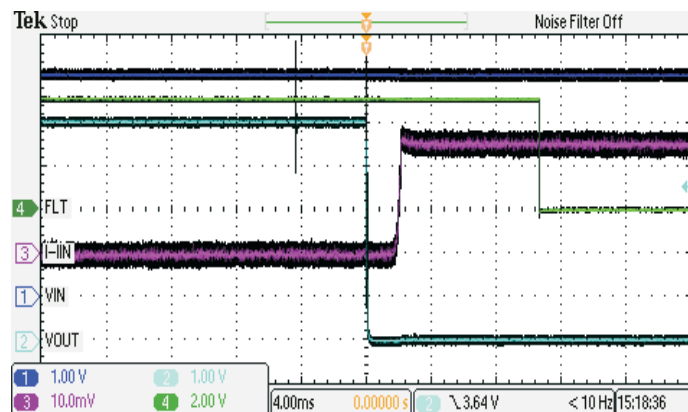

Figure 2. 100-k Ω R_{ILIM} Enabled into a Short Circuit
2. Momentarily short the output connector. A sample scope trace is shown in Figure 2. Observe VOUT1 drops to 0 V.